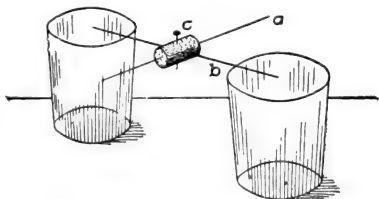

Fig. 23. Simple Experiment Illustrating Dip
*a*, Fig. 23, be thrust through a cork, and let a second needle *b* be passed through the cork at right angles to *a*. Let the system be adjusted by means of wax or a pin *c* until it is in neutral equilibrium about *b* as an axis when *a* is pointing east and west. Then let *a* be strongly magnetized by stroking one end of it from the middle out with the *N* pole of a strong magnet and the other end from the middle out with the *S* pole of the same magnet. When now the needle is